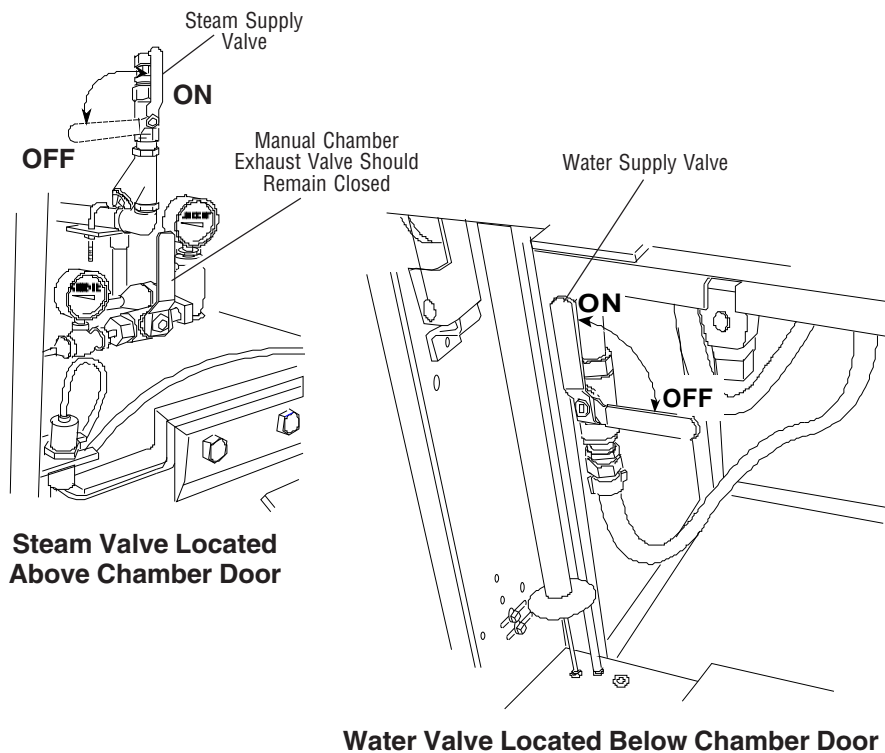

Figure 6-2. Steam and Water Supply Valves
3. Open front cabinet panel on load end of sterilizer. Verify steam and water supply valves to sterilizer are on (see Figure 6-2). Close cabinet panel.